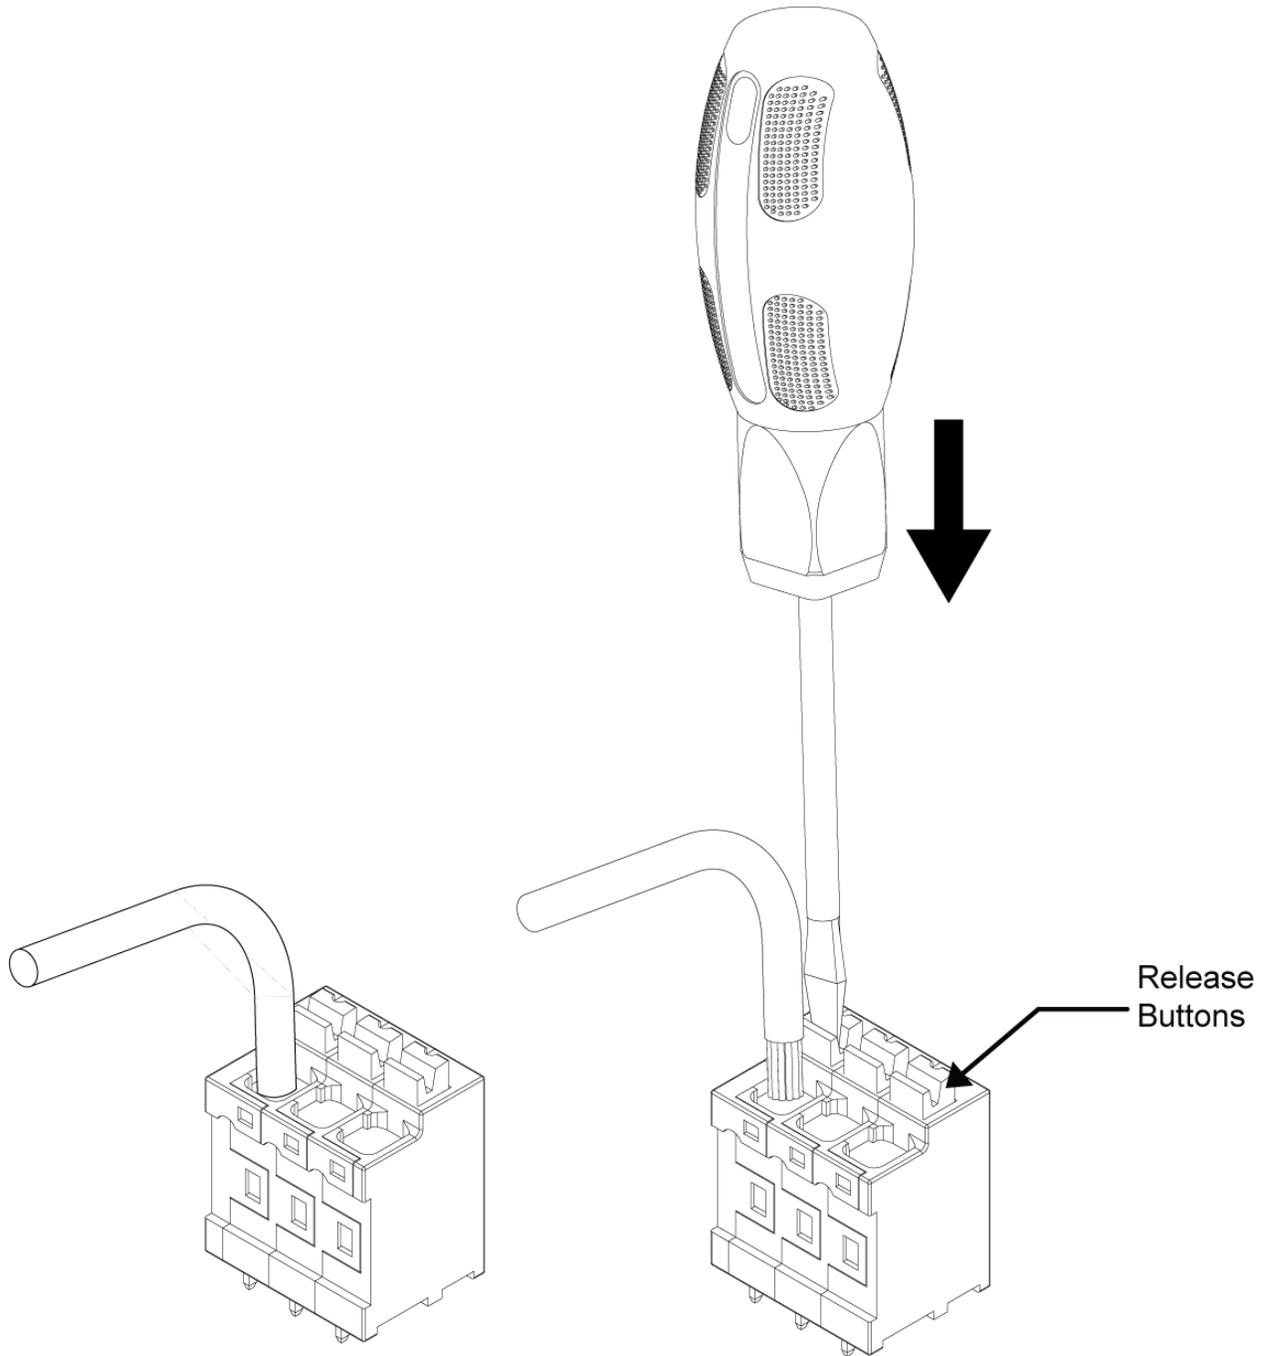

Figure 12: OMNIMATE Connector Instructions
- The BD-3PI uses the Omimate® Connector. See Figure 12 for connect/disconnect instructions.